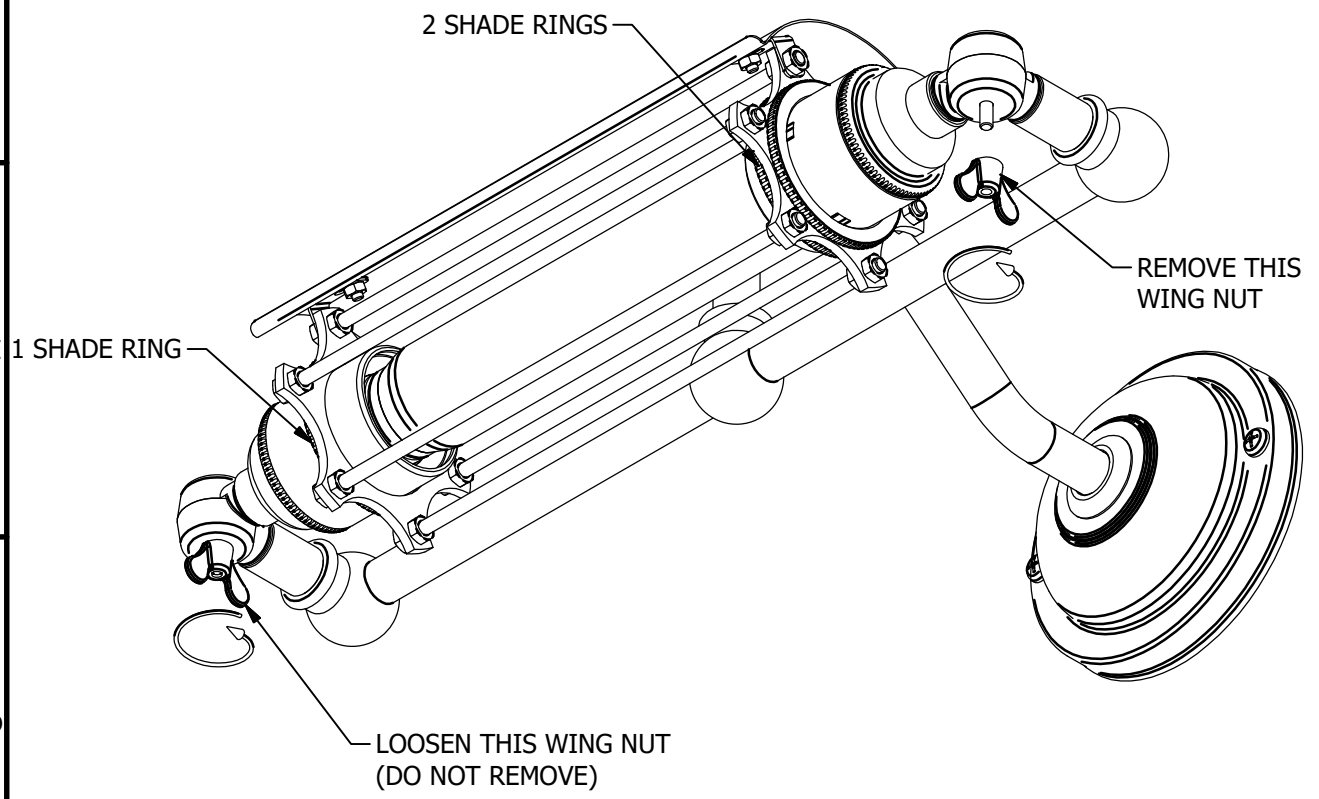

Figure 1.
- 2) Take note of the two shade rings at one end of the cage. (Figure 1.)